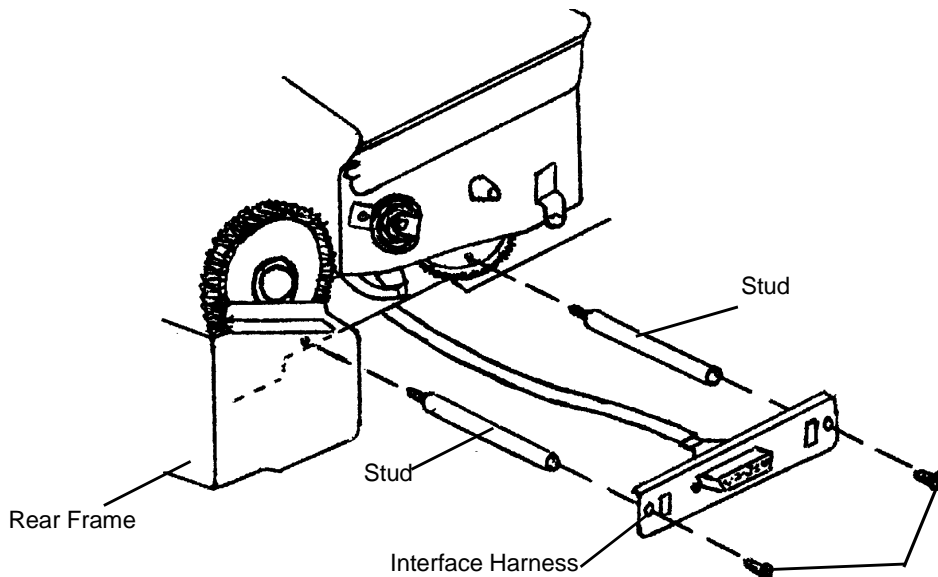

FIGURE 3 - Rear View of Frame
16. On the rear side of the Priport, install the two (2) Long Studs (Black) into the chassis above the cable channel. Refer to figure 3.